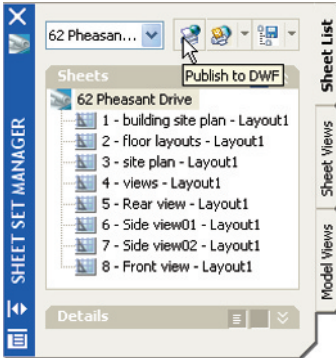
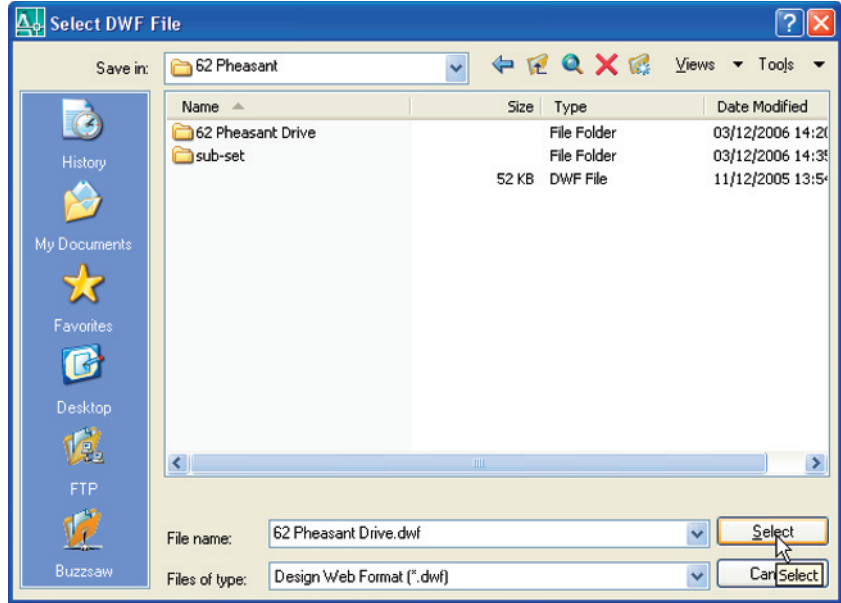

Fig. 11.9 The **Publish to DWF** icon in the **Sheet Set Manager**
Fig. 11.10 The **Select DWF File** dialog
1. In the **62 Pheasant Drive** Sheet Set Manager *click* the **Publish to DWF** icon (Fig. 11.9). The **Select DWF File** dialog appears (Fig. 11.10). *Enter 62 Pheasant Drive* in the **File name** field followed